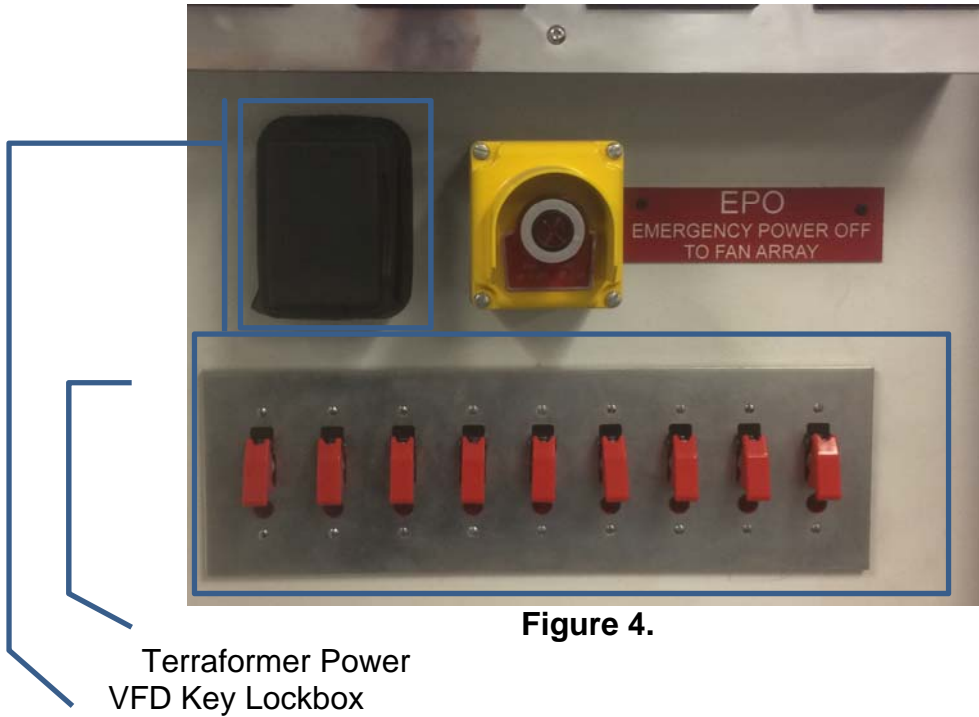
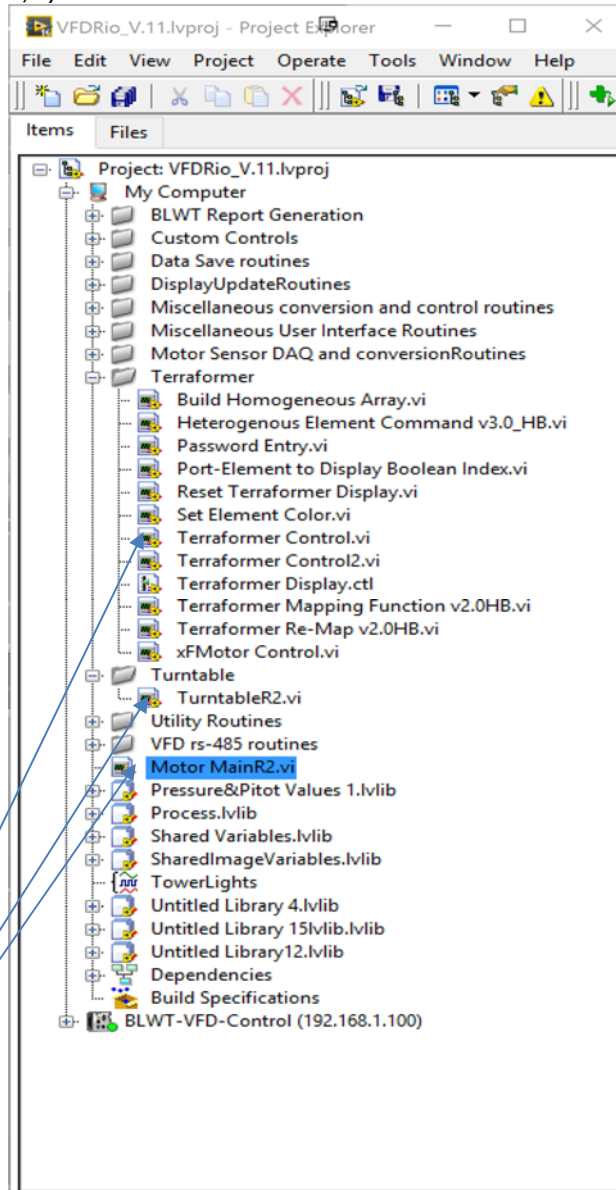

Figure 4.
Figure 5.
- 2.1.5 If the Terraformer is required turn on the power to the system (fig. 4).
- 2.1.7 Retrieve the main power panel key from the lock box in the control room (fig. 4), open the main VFD power panel and turn on the main circuit breaker (fig. 5).
- 2.2.3 Open the **TurntableR2.vi**, **Terraformer Control.vi** and the **Motor Main.vi** (fig. 5,6,7,8).